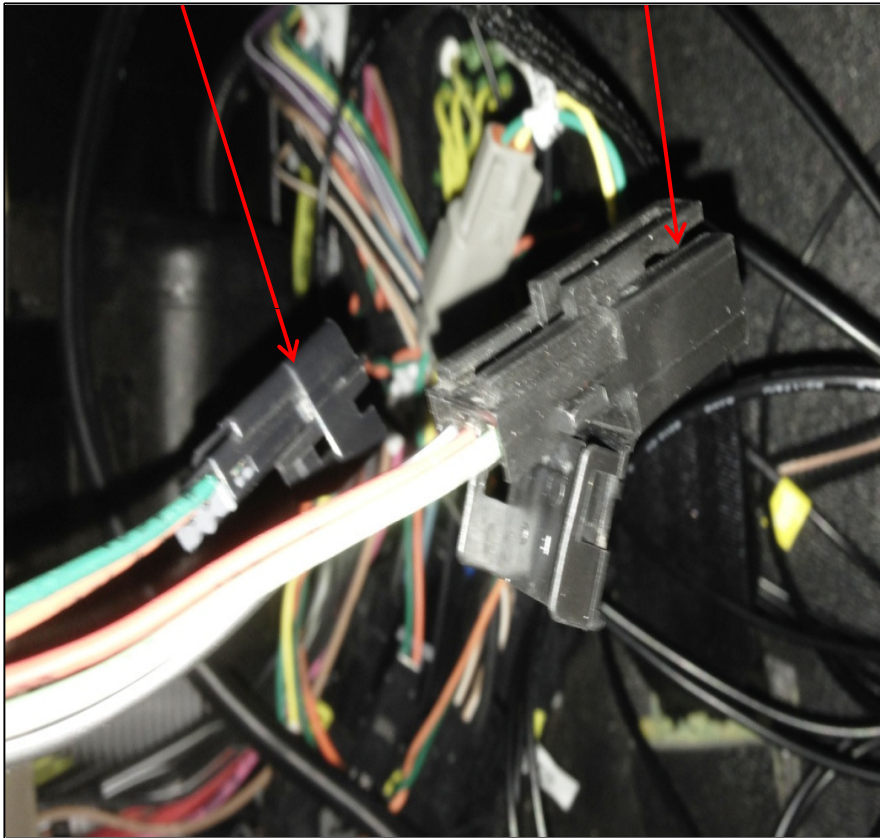

Figure 1
3. Route DTY20 power and ground wires to source; behind drivers seat "B" pillar access panel, shown in "Figure 1".
6. Route J1708 wires as described in "Figure 1".